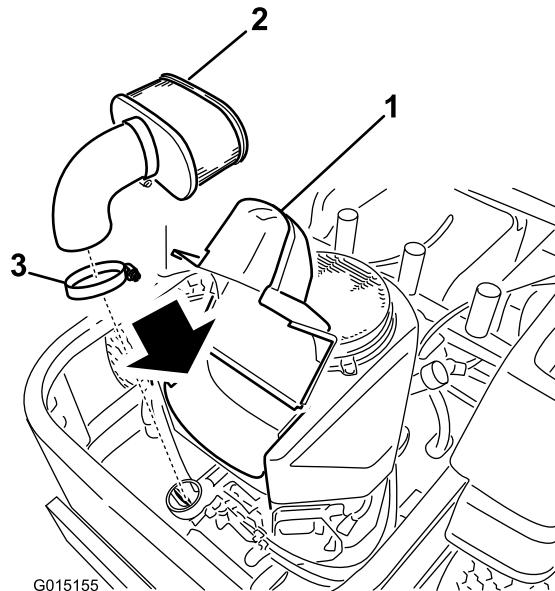

Figure 29
4. Lift the cover and remove the hose clamp securing the air cleaner assembly to the engine (Figure 29).
5. Loosen the hose clamp and remove the paper element (Figure 29).